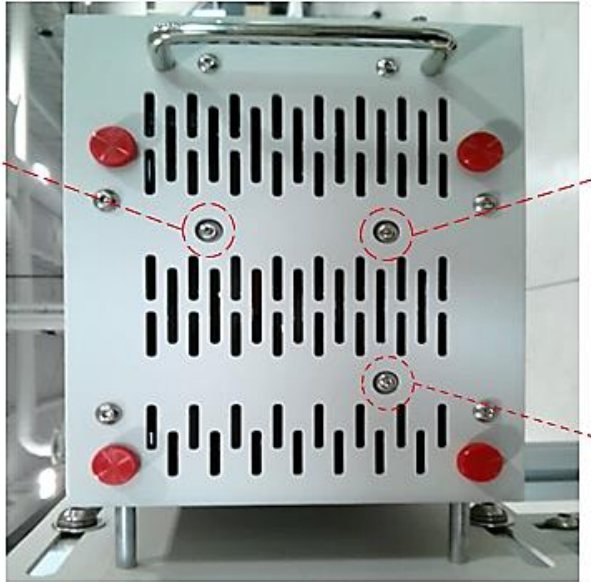

Figure 56. The rear of the TLS showing the three M3 lamp alignment screws.
- 1- After performing setting in section 17, grab 2.5 mm hex driver and turn the three M3 screws at the rear of the lamp housing in one direction (CW or CCW), and by small equal amount (e.g ¼ of a turn). Using your detector and the data equitation system (DAQ), monitor if the power reading is increasing (Figure 56).